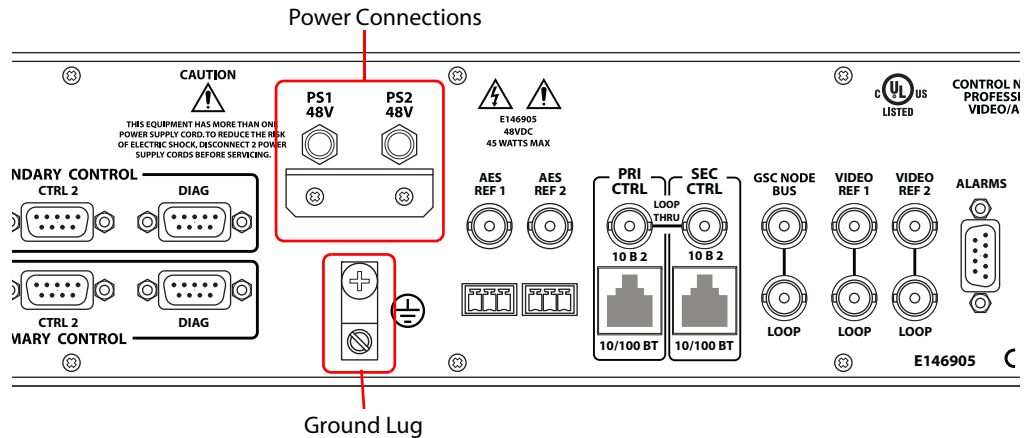

Fig. 2-8: Power Connections and Ground Lug (Rear View)
- 1 Locate the power connections on the rear of the EC9535. The connections are labeled 'PS1 48V' and 'PS2 48V', as shown in Figure 2-8.
- 5 Connect the EC9535's ground lug to earth ground using a copper wire from 14 to 6 AWG. The ground lug is located in the lower right corner of the frame, as shown in Figure 2-8 on page 17.